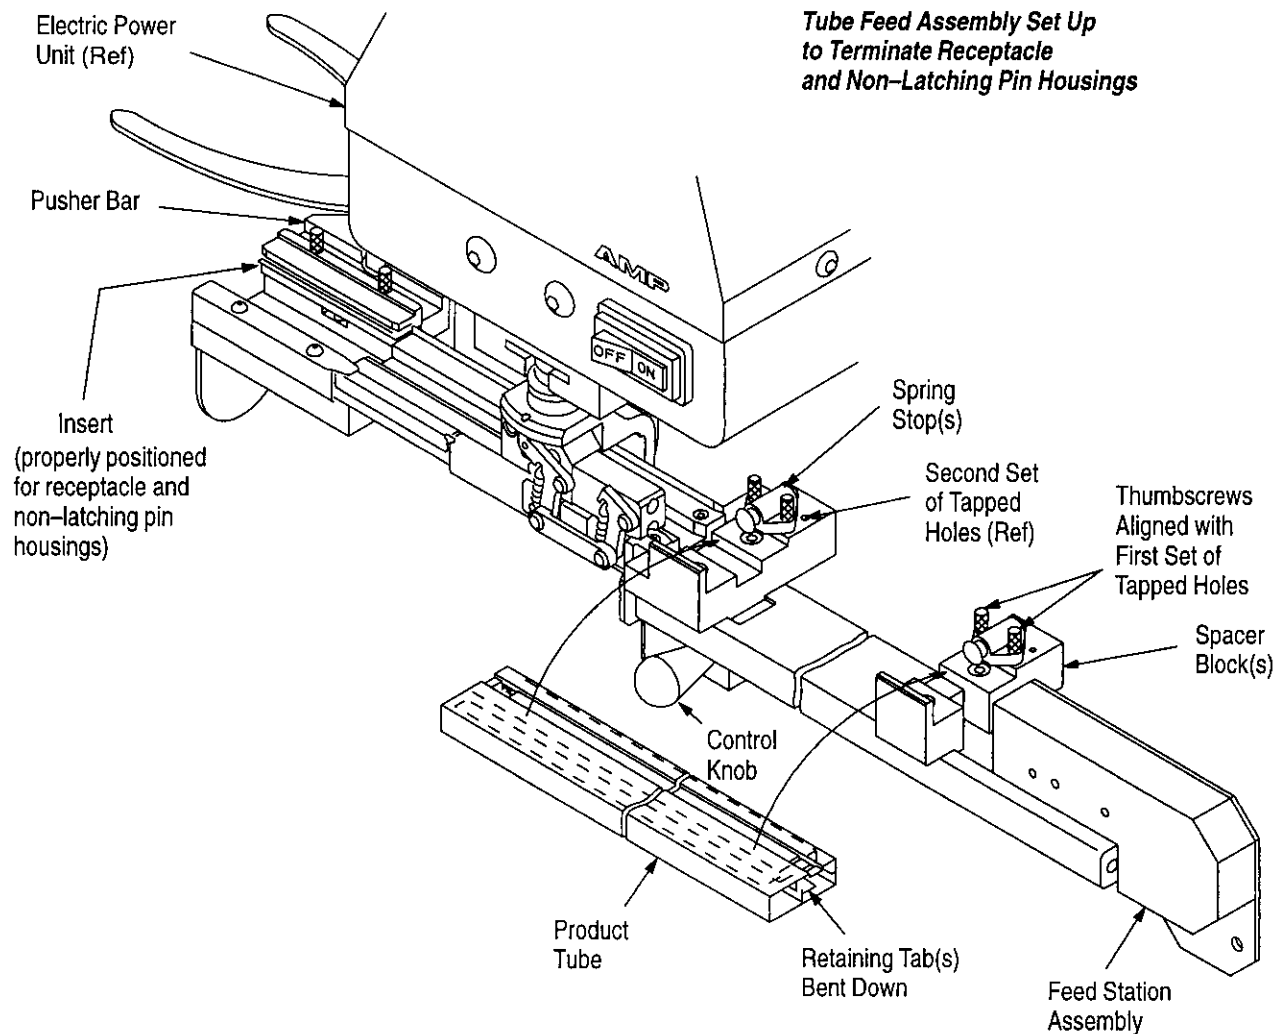

Figure 2
This instruction sheet covers the setup and operation of AMP* MTE Tube Feed Assembly 856675-1 designed to be used with AMP Electric Power Unit 931800-1, as shown in Figure 2. The assembly terminates unstripped wire in the shrouded pin and receptacle contacts of AMPMODU MTE housings and then seats the contacts within the housing. For setup and operation procedures of the power unit, refer to AMP customer manual 409-5746.
3.1. Setup (Figure 2)
A. Receptacle and Nonlatching Pin Housings (Figure 2)
2. Move control knob to the left (toward the seating station) until the latch engages with the sheet metal block at the far end. Place the product tube between the spacer blocks, as shown in Figure 2.
3. Reposition spring stop onto the spacer block, aligning the thumbscrews over the **first** set of tapped holes on the spacer block. See Figure 2.
5. Check position of insert on pusher bar. The insert must be positioned for the appropriate product, as shown in Figure 2. To re-adjust the insert, remove the thumbscrews, rotate the insert to the proper position; then retighten the thumbscrews.
Adjustment of the feed index adjustment screw requires the removal of feed station assembly 854650-1 (refer to Figure 2). Remove the two screws that secure the feed station assembly to the insertion station assembly and place the feed station assembly to the side.